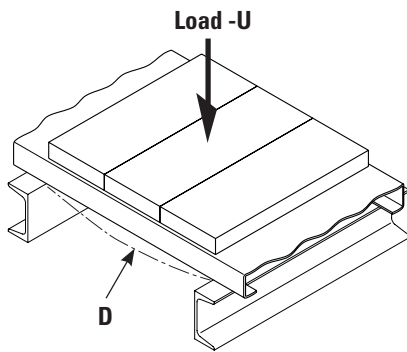

Figure 1
Design load assumptions differ according to load type: (1) uniform, (2) concentrated (see Figures 1, 2 and 3 below for explanation of load application). Concentrated load capacities generally vary with span, siderail height and material thickness, irrespective of grating width, although large differences in grating width cause concentrated loads to be distributed somewhat differently into siderails.
Deflection (in.) corresponding to maximum load (U) or (C) permitted by flexural stress in siderail or grating strut, whichever is lower, applied as defined in Figures 1, 2, or 3.